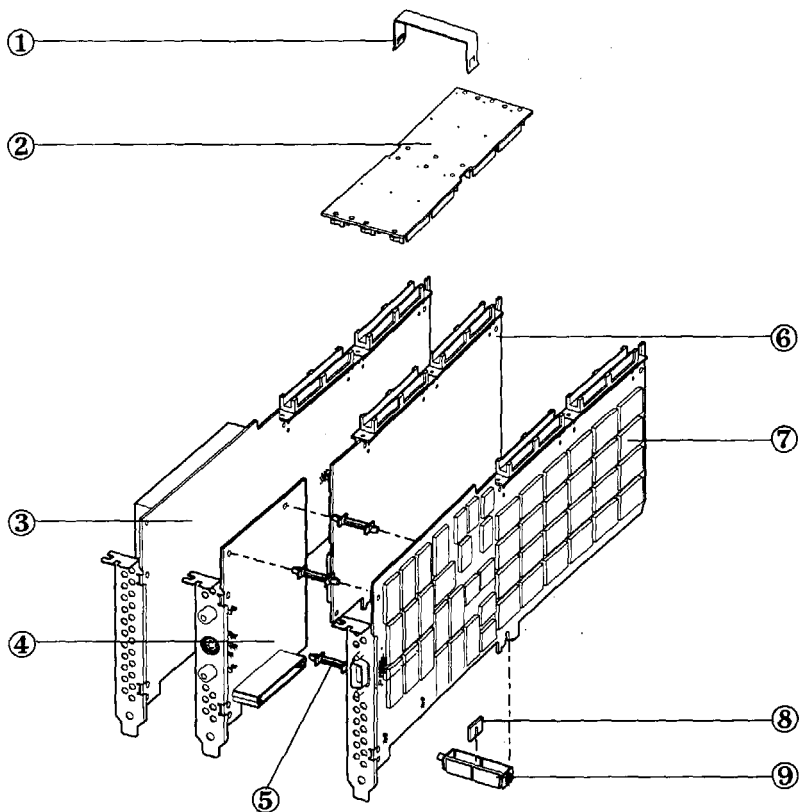

Figure 1-1. A4244A Graphics Option
2. Flip the board set over so it is laying on the Front Plane (2) and the Spacer Assembly (9) is on top.
4. Flip the board set over again so the Front Plane (2) is on top (hang metal tongues of the board set over the edge of a table to get the board set to lay more horizontally).
5. Remove the Retaining Clip (1) by using your thumb to pry each side of the clip off of the Front Plane. Remove the End Retainers (not shown in Figure 1-1) from the Front Plane in the same manner, if applicable.
8. If you are installing a Video Out Board (4), mount the Video Out Board onto the Frame Buffer Board (7) using the Standoffs (5). Then place the combined boards into the Front Plane, using Figure 1-1 as a reference. If you are not installing a Texture Mapping Board at this time, you must insert the Board Placeholder (8) in the 3-Wide Spacer Assembly (9) as shown in Figure 1-1 to take the place of the Texture Mapping Board.
9. If you are installing a Texture Mapping Board, install the board into the Front Plane by sliding the Texture Mapping Board (6) down in between the Geometry Accelerator and Frame Buffer Boards until the board's connectors are firmly seated in the Front Plane connectors.